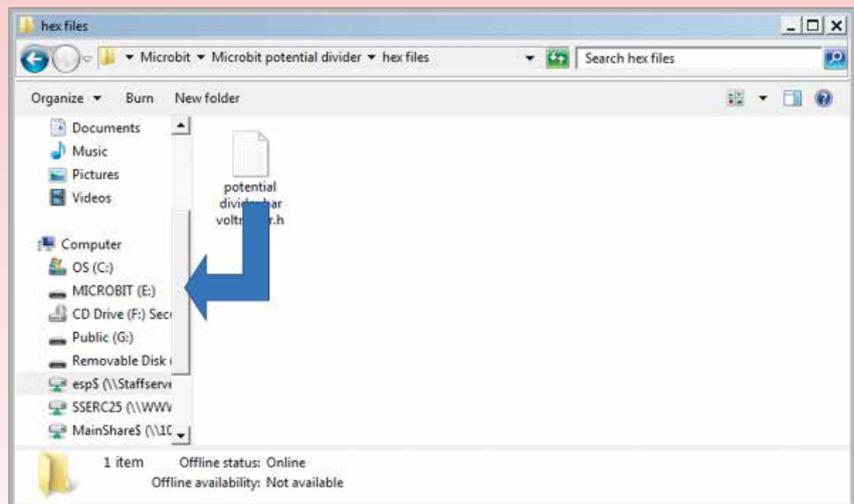

Figure 1 - Dragging a program on to the micro:bit.
- Drag the .hex file on to the micro:bit, as shown in Figure 1.